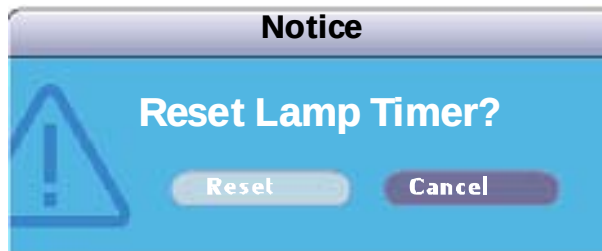

Figure 7. Resetting Lamp Timer.
14. Once the startup logo appears, open the On-Screen Display (OSD) menu. Go to the **SYSTEM SETUP: Advanced > Lamp Settings** menu. Press **MODE/ENTER**. The **Lamp Settings** page displays. Press **▼** to highlight **Reset lamp timer** and press **MODE/ENTER**. A warning message displays asking if you want to reset the lamp timer (see Figure 7). Highlight **Reset** and press **MODE/ENTER**. The lamp time will be reset to '0'.